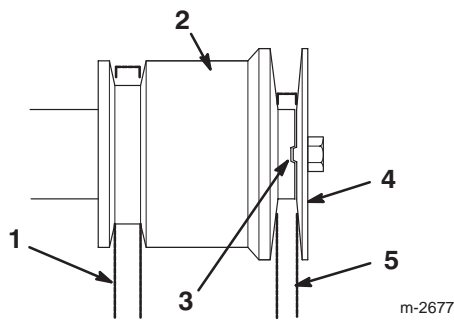

Figure 32
- Note:** Do not to pinch the traction drive belt (Fig. 32).
15. Install the engine pulley sheave, ensuring that the indexing rib in the engine pulley sheave aligns with the indexing notch in the engine pulley (Fig. 32).
16. Install the washer, lock washer, and crankshaft screw that secures the engine pulley sheave (Fig. 32).
- Note:** Do not pinch the auger/impeller drive belt (Fig. 32).
Note: Ensure that the indexing rib in the engine pulley sheave aligns with the indexing notch in the center engine pulley. Do not pinch the belt (Fig. 32).